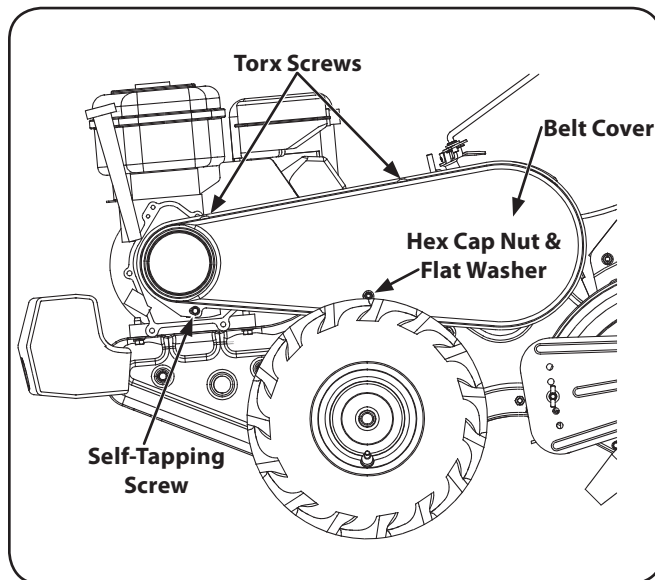

Figure 7-1
2. Remove the belt cover from the left side of the tiller by removing the two torx screws from the top of the belt cover. See Fig. 7-1.